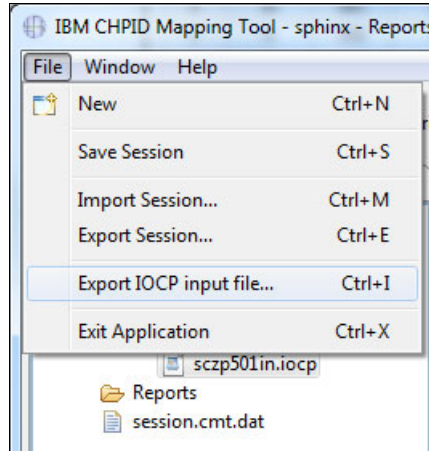

Figure 5-105 CMT - Export IOCP input file
1. Select **File** → **Export IOCP input file** (Figure 5-105).